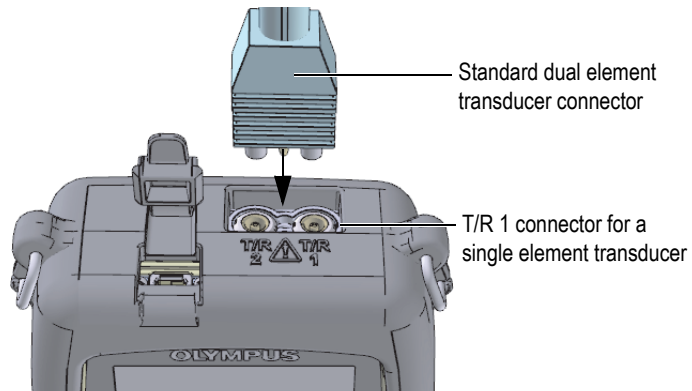

Figure 5-1 Plugging in the transducer
1. Plug the transducer into the transducer connector(s) on the top of the 45MG case (see Figure 5-1 on page 52), using only T/R 1 for a single element transducer.